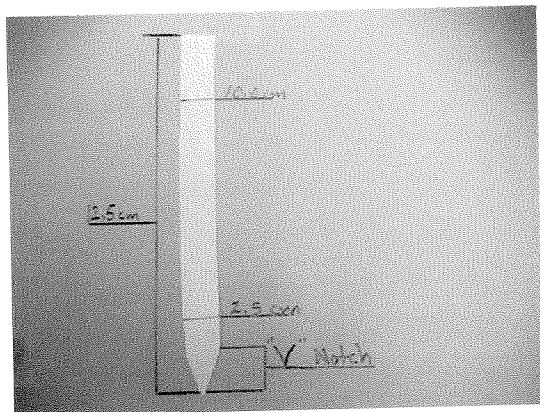
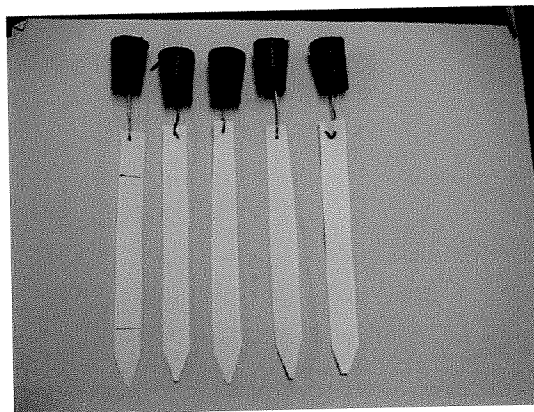

Figure 3
Figure 4
- 5.) Obtain some filter paper and cut five strips making each strip 12.5cm long and 1cm wide (see figure 3). From the bottom of each strip measure up 1.5cm and using a pencil, make a light line across the filter paper (see figure 3). From the bottom of the filter paper up to the 1.5 mark cut a "V" in the filter paper, (see figure 3). From the bottom measure up 2.5cm and once again using a pencil, make a light line across the filter paper (see figure 3). From the bottom of the filter paper measure up 10.00 cm and using a pencil, make a light line across the filter paper (see figure 3). At this point, obtain 5 rubber stoppers with hooks in them. Suspend each strip of filter paper from the hooks (see figure 4). Each strip must hang suspended in the test tube without touching the walls of the test tubes. Minor adjustments may have to be made by adjusting the wire. ****The goal is to keep the blotted ink extract 1cm above the solvent.** At this point, you should have five filter paper strips attached to rubber stoppers with hooks. Also on each strip, attach a thumbtack on the bottom to keep the paper from rolling up. Have your teacher check your set up before continuing.